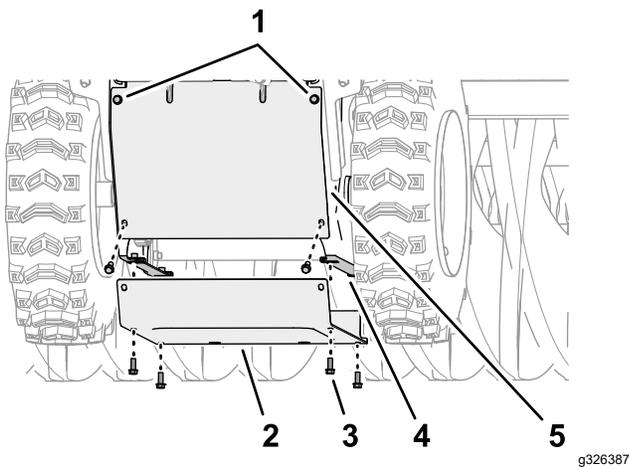

Figure 51
- At the bottom of the machine, align the holes in the bottom cover with the holes in the flanges of the left and right side plates (Figure 51).
- Assemble the bottom cover to the machine (Figure 51) with the 6 flange-head capscrew (1/4 x 5/8 inch).
- tighten the 2 top flange-head capscrew (1/4 x 5/8 inch) that secure the rear cover to the machine (Figure 51).